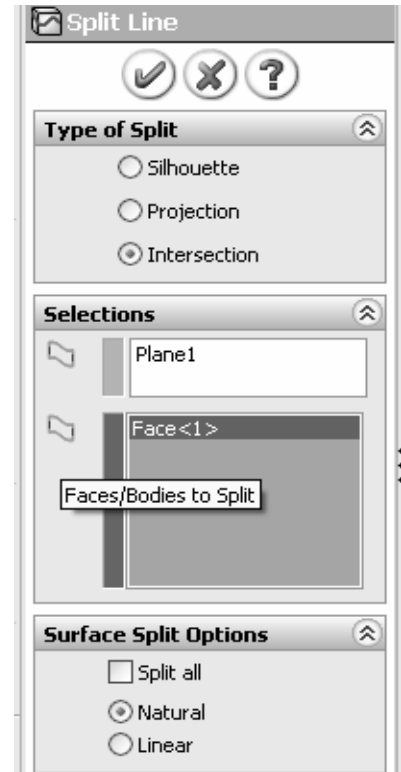

Figure 9 – **Split Line** property manager showing selections.
7. From the main menu, select **Insert**. Then, from the pull-down menus choose: **Curve** followed by **Split Line...** The **Split Line** property manager opens as shown in Fig. 9.